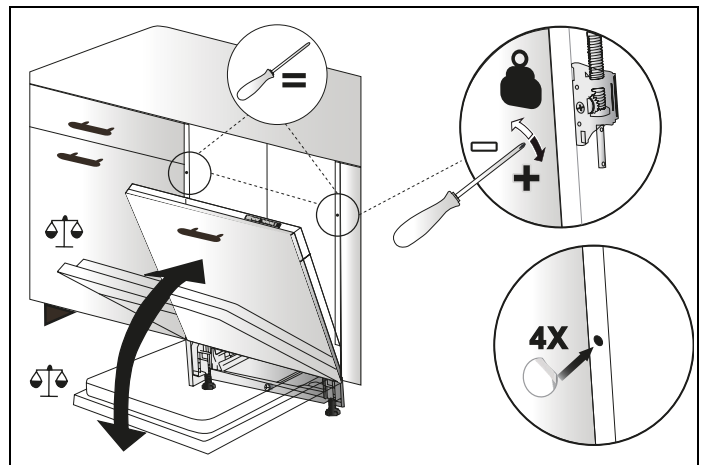

Fig. 31
9) According to the weight of the assembled wooden door, the balancing must be provided by the mechanism shown in Fig. 31 .